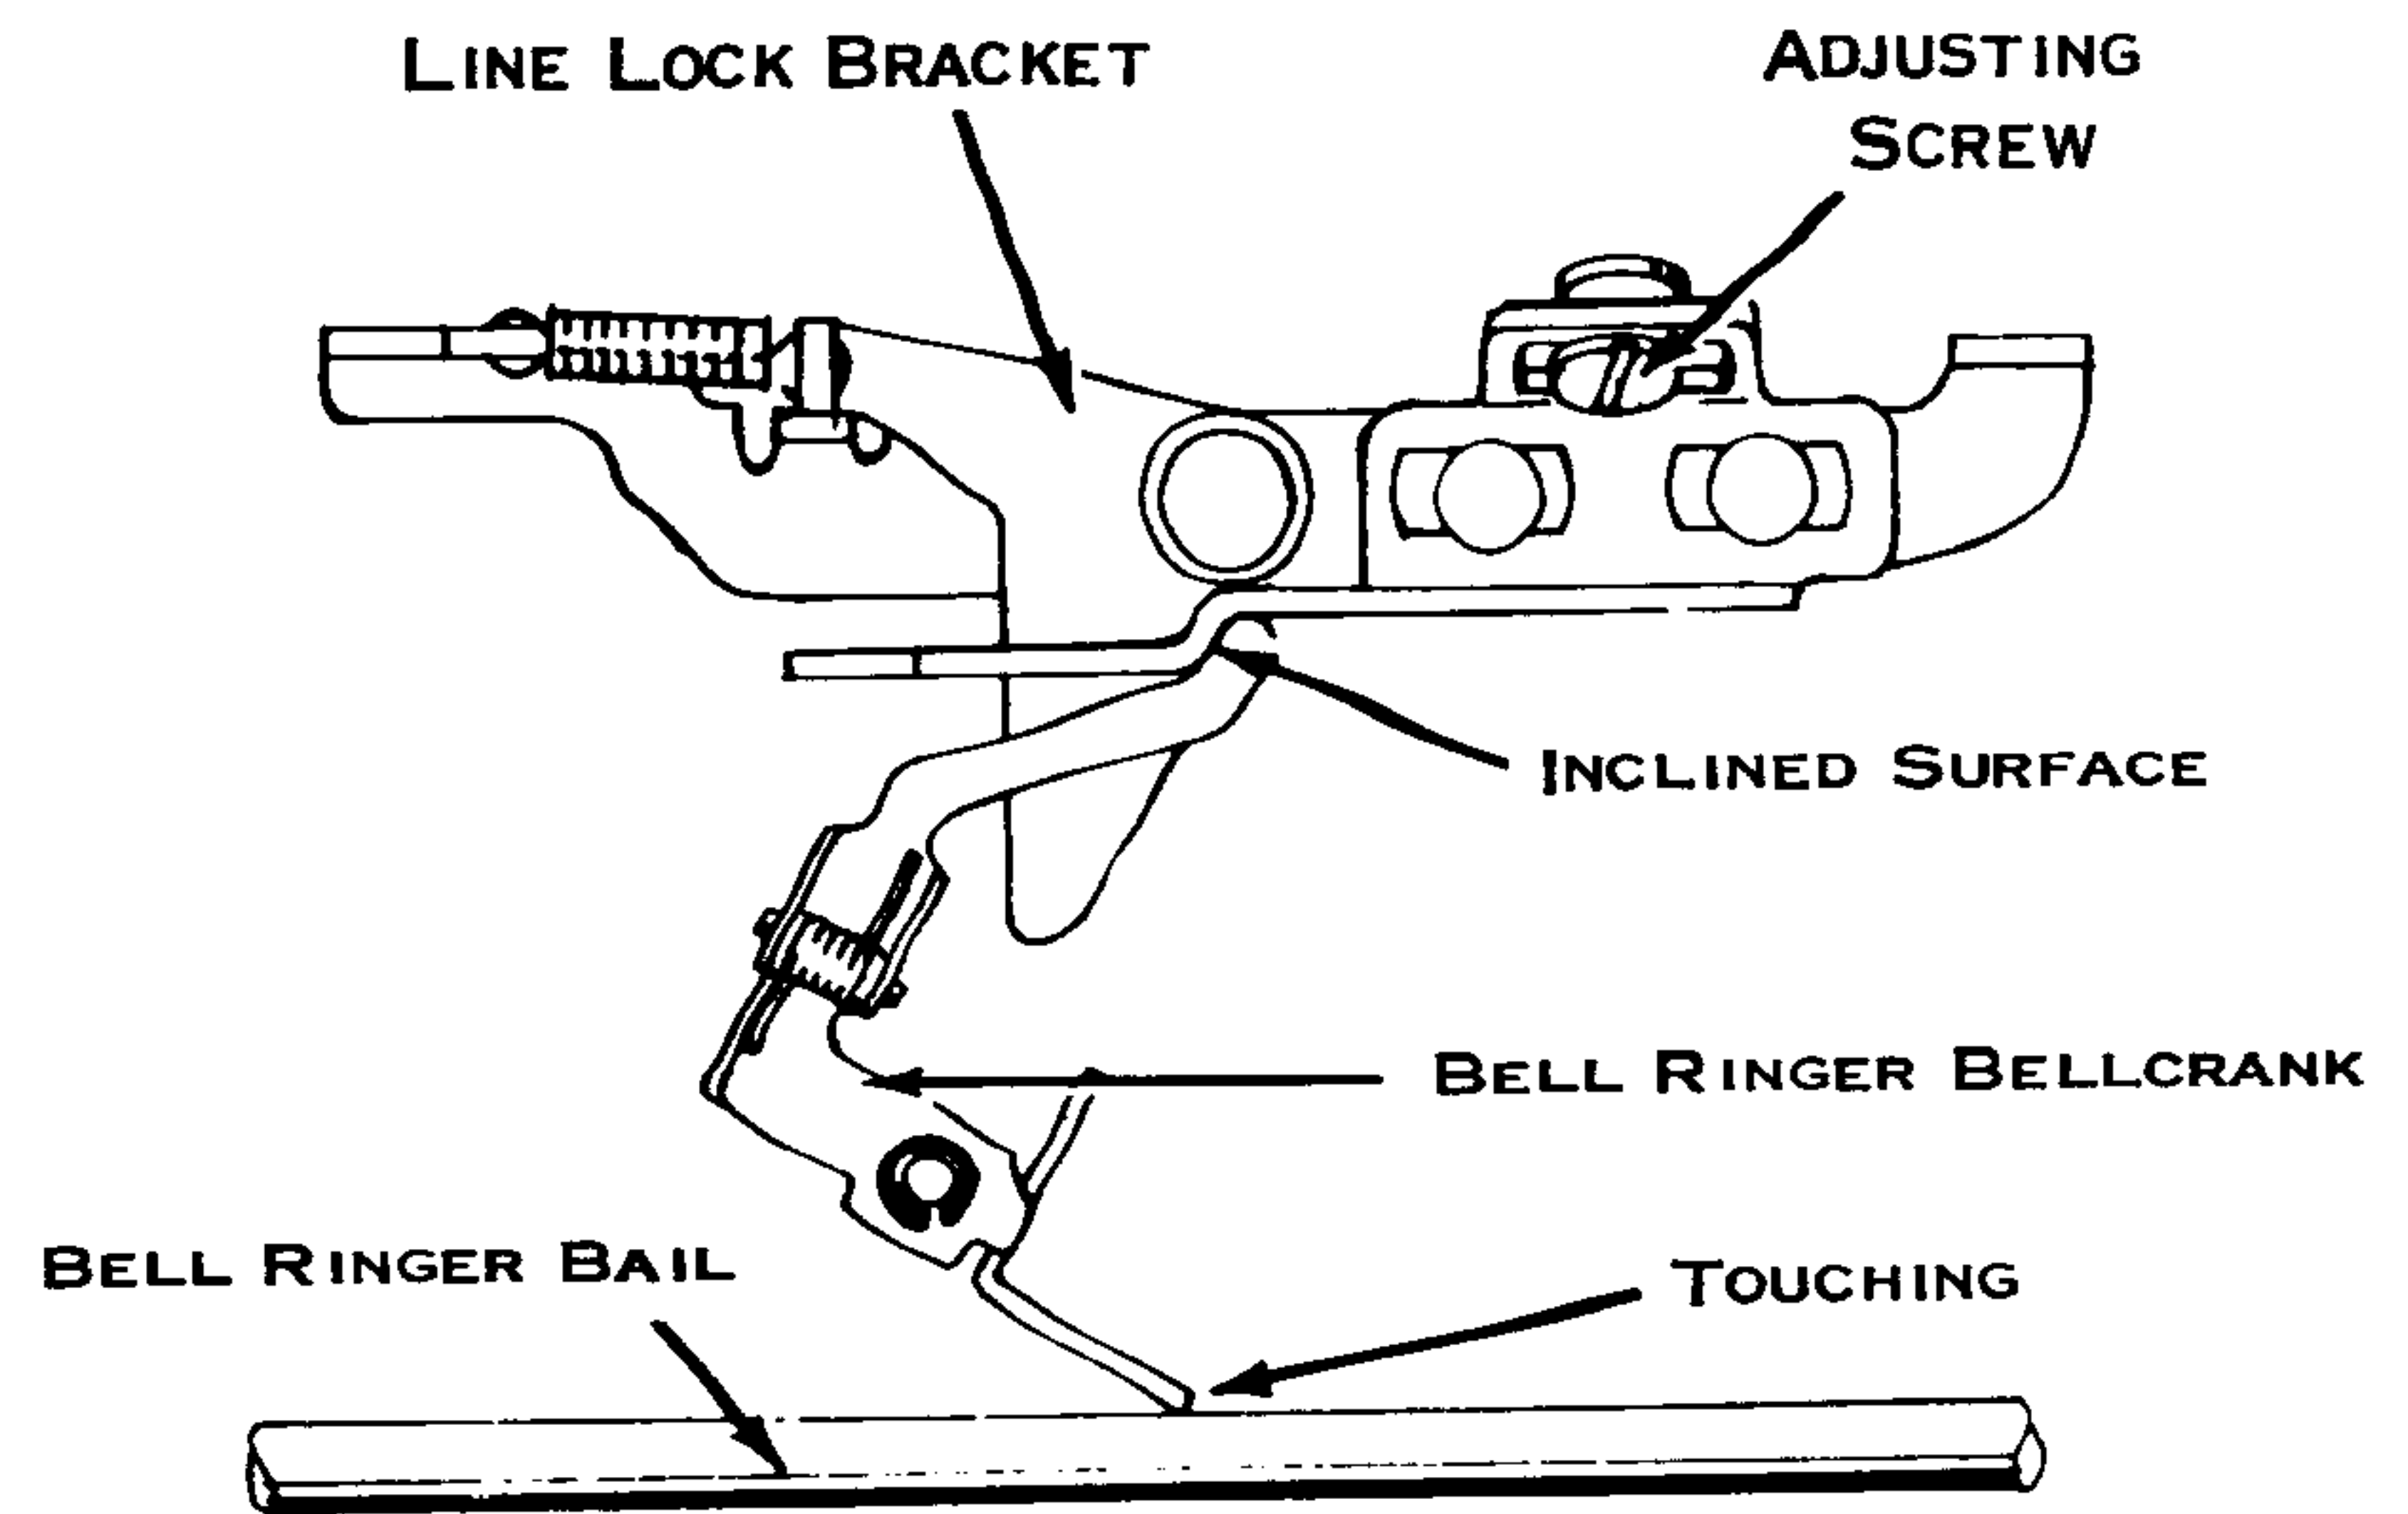

Figure 192. Line Lock Bracket
8. Line Lock Bracket Adjustable Plate (Fig. 192) - Position, with the carrier in the next to last space, to a point where the inclined surface just begins to deflect the bellringer bellcrank.